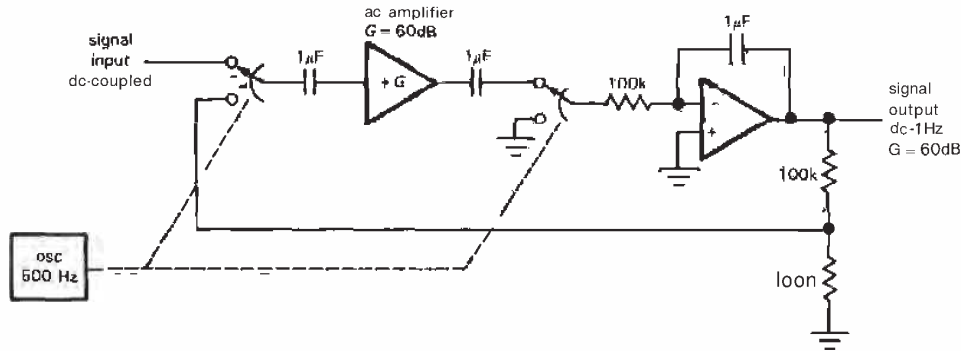

Figure 7.21. An ac-coupled chopper amplifier.
□ **ac-coupled "chopper amp."** When considering auto-zeroing chopper amplifiers, be sure you don't confuse this technique with another "chopper" technique, namely the traditional low-bandwidth chopper amplifier in which a small dc signal is converted to ac ("chopped") at a known frequency, amplified in ac-coupled amplifiers, then finally demodulated by multiplying with the same waveform used to chop the signal initially (Fig. 7.21). This scheme is quite different from the full-bandwidth auto-zeroing technique we've been considering in that it rolls off at signal frequencies approaching the clock frequency, typically just a few hundred hertz. You sometimes see it used in chart recorders and other low-frequency instrumentation.